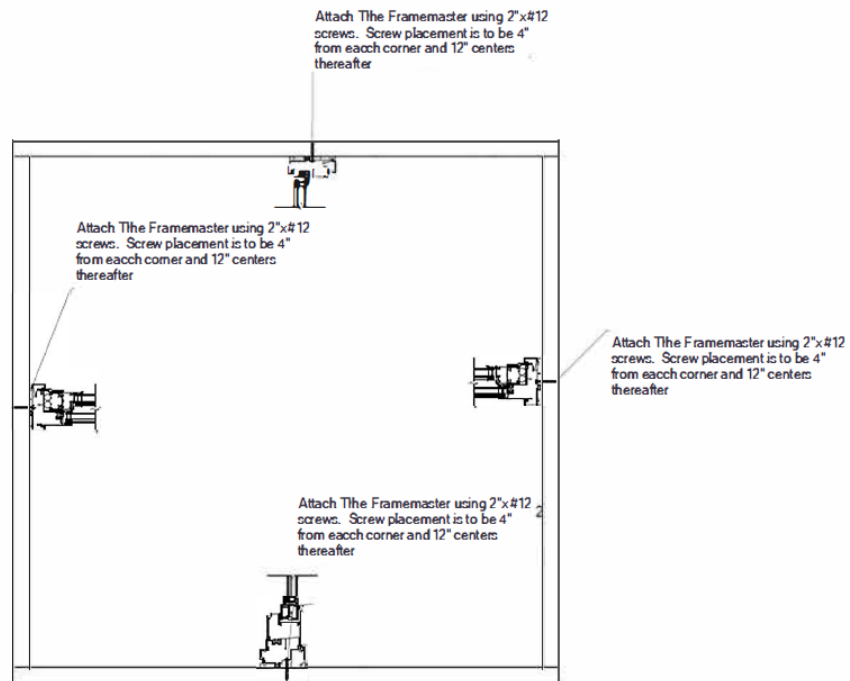

Fig. 1
6.3.2 Fasteners should be a Minimum of 4" from each corner and a Minimum of 12" on center at the full perimeter of the subframe. See Fig. 1 below.